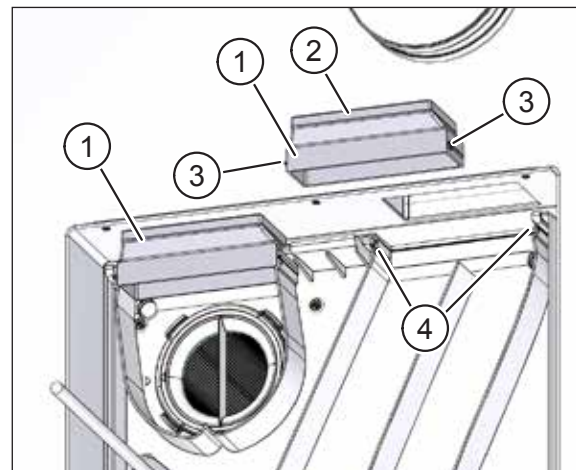
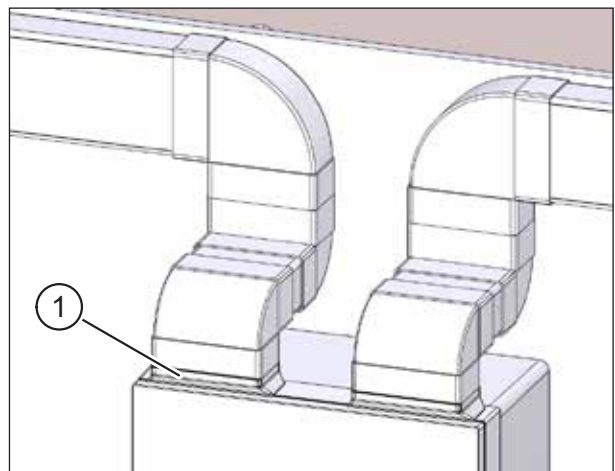

Fig. 46: Inserting duct adapters
Fig. 53: Connecting flat ducts to the ventilation unit
- ▶ Take the two duct adapters from the U² adapter kit (item 1 in Fig. 46).
- ▶ Check that the seals (item 2 in Fig. 46) are seated correctly at the top of the duct adapters.
- ▶ Attach the two duct adapters so that the tabs (item 3 in Fig. 46) line up with the recesses (item 4 in Fig. 46) on the ventilation unit.
- ▶ Insert the duct adapters (item 1 in Fig. 53) into the ventilation unit (see description and Fig. 46 in section 11.6.4 on page 39).